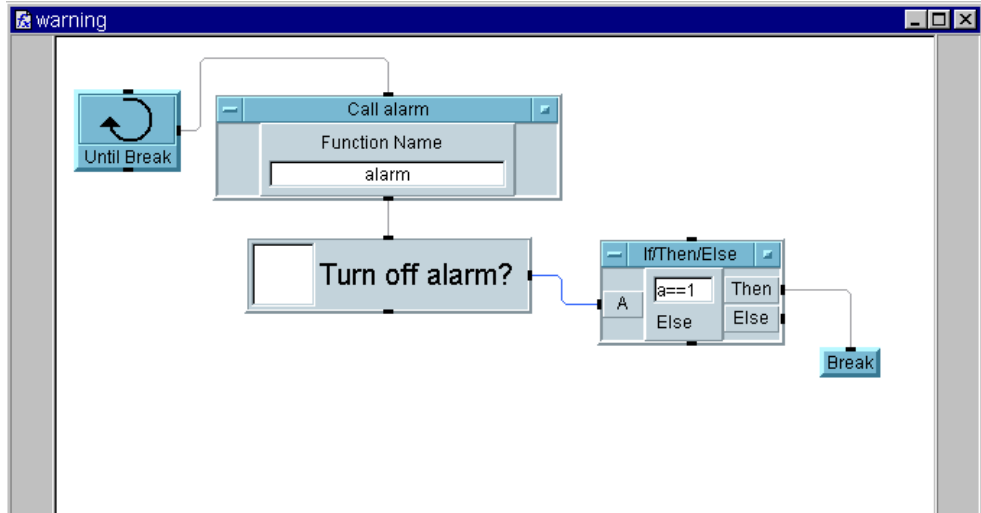

Figure 8-24. The Warning UserFunction (Detail View)
17. Select Flow ⇒ Repeat ⇒ Break and connect it to the Then output on the If/Then/Else object, as shown in Figure 8-24.